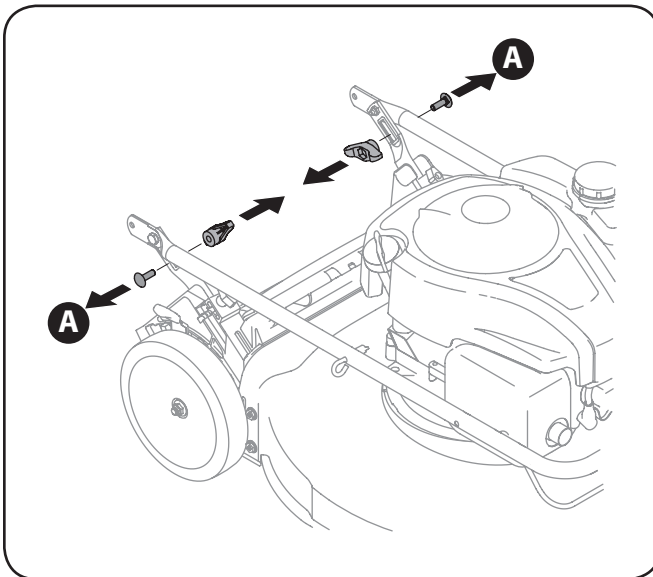

Figure 3-1
- a. Remove wing nuts and carriage bolts from handle as shown in Figure 3-1. Do not loosen or remove adjacent hex head screws.